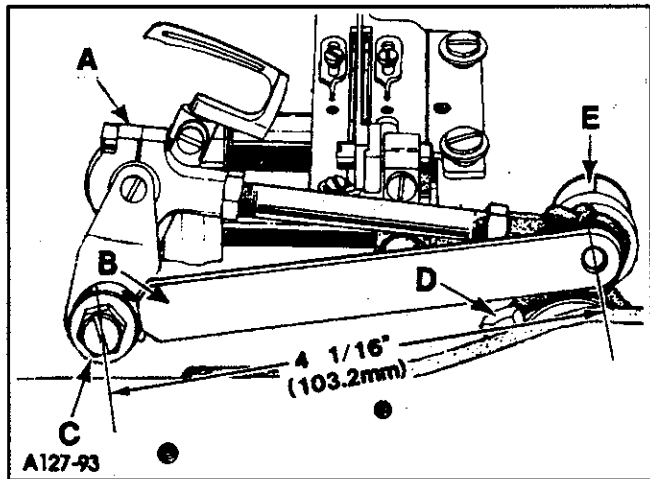

FIG. 8
With looper at extreme right end of travel, check location of the right looper connecting rod bearing (A, Fig. 8) using gauge No. 21227 DC (B). Place hole in gauge over threaded stud and the left inside edge of the gauge should locate against the left side of the looper rocker cone (C). If adjustment is necessary, loosen clamp screw (D) and reposition looper drive lever (E) as required, then retighten clamp screw (C).